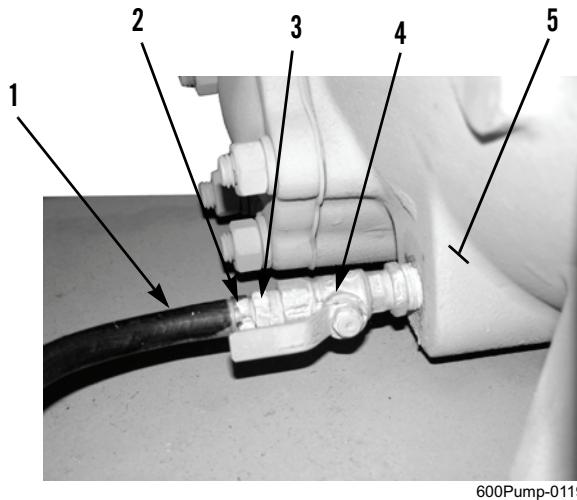

Figure 1. Pump Drain Hose.
1. Cut hose clamp (Figure 1, Item 2), hold pump drain hose (Figure 1, Item 1), and remove barb fitting (Figure 1, Item 3) and pump drain hose from drain valve (Figure 1, Item 4). Discard hose clamp.
2. As required, remove drain valve (Figure 1, Item 4) from pump (Figure 1, Item 5).